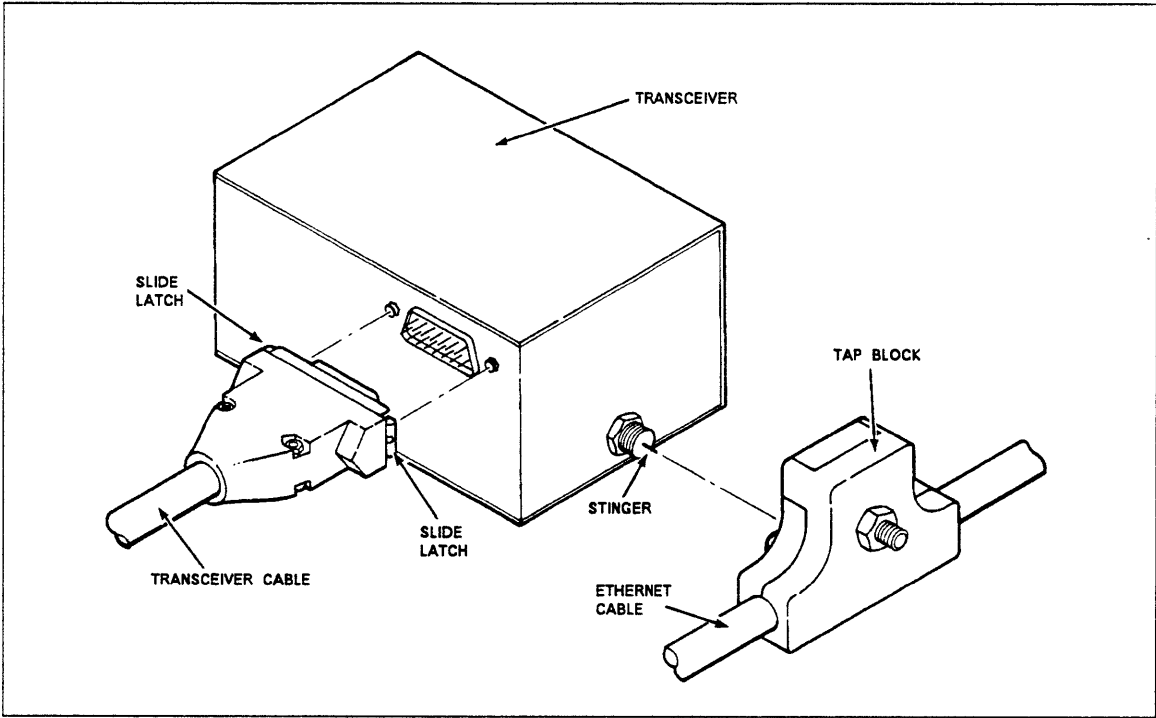

Figure 9-29. Ethernet Transceiver TN111A
2. Disconnect external transceiver cable (figure 9-29) from transceiver by rotating slide latches (one up and one down).
3. Unscrew (clockwise) transceiver from tap block (figure 9-29).